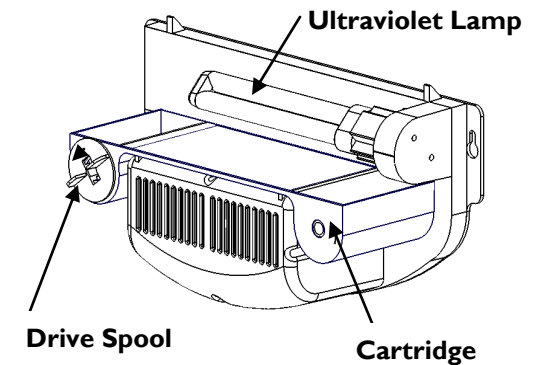

Fig. 5
2. Rotate the drive spool of the cartridge in the direction of the arrow shown on the drive spool until the glue spans the full length of the cartridge. (Fig. 5)
3. Position the cartridge on the top of the motor enclosure. Push the cartridge in until it stops. (Fig. 5 & 6) **NOTE:** About 6 to 7 rotations will be required.